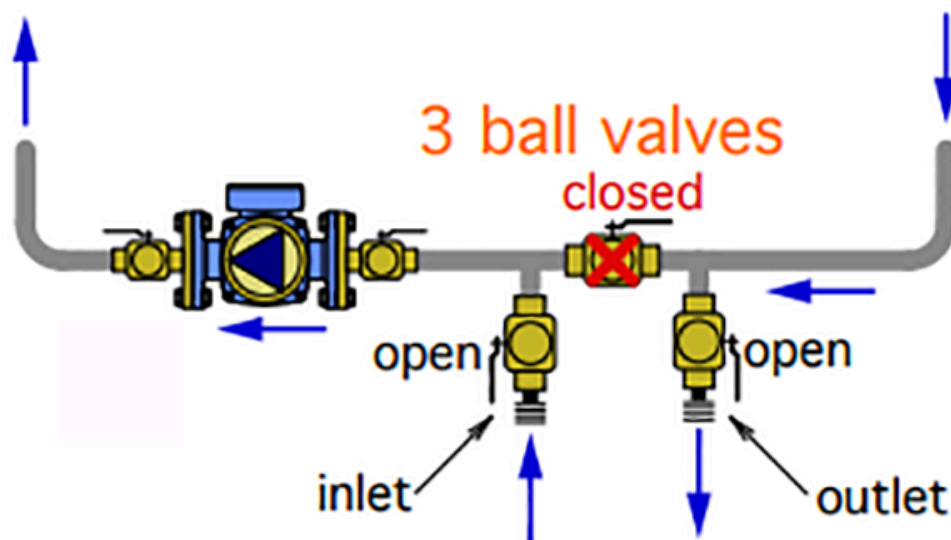

Figure 30 System flushing valve arrangement. (Caleffi, idronics™, 2016). Caleffi S.p.A. All rights reserved. Used with permission.
Either an air purger or microbubble resorber will be located on the supply piping as it leaves the boiler, where the water is hottest and most easily released from the solution. Figure 30 shows a typical location of an air separator within a system.
- **Figure 30** System flushing valve arrangement [Figure 4-9] is by Caleffi Hydronic Solutions (2016, p. 19) in idronics™ and is used with permission.